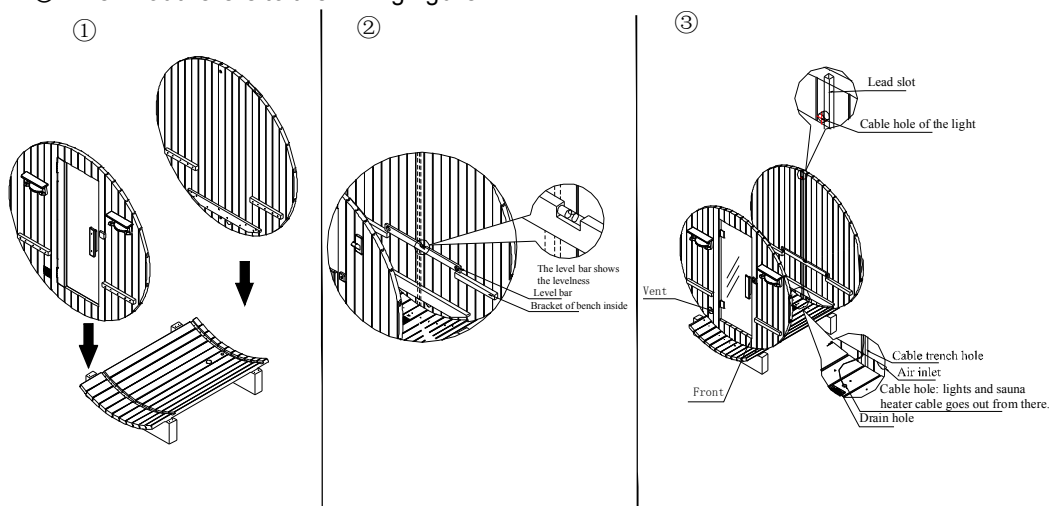

Figure 5
((1) Insert back wall to the cross slots of the back wall on the base, and front wall to the cross slots of front wall. (Figure 5)
- ① Place the level bar to the cross bracket of front and back walls to measure if walls are horizontal.
- ② Pay attention to placement of front and back walls inside and outside to check if they are consistent with Figure 5 and vertical.
- ③ Wire in/out refers to the wiring figure.